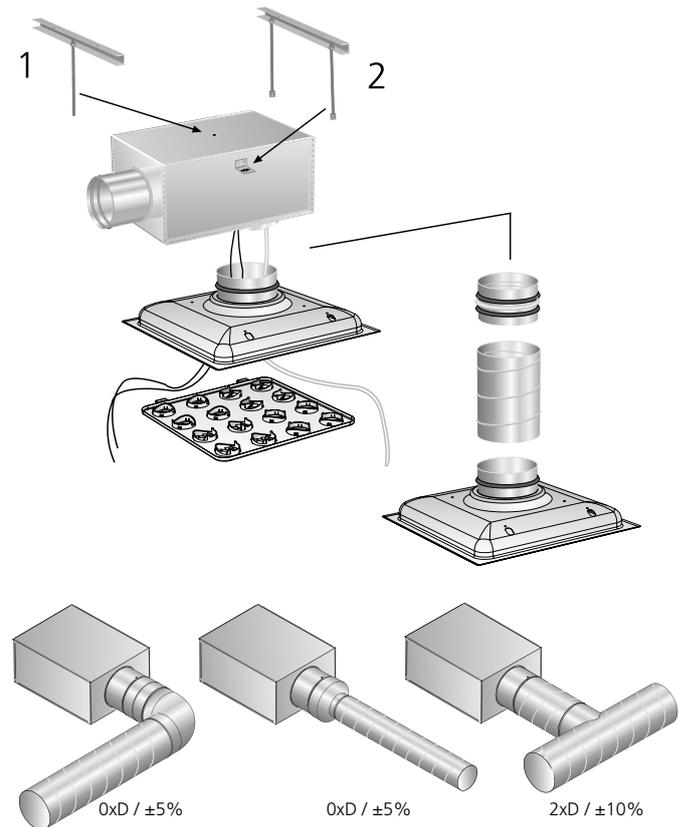

Figure 1. Installation
Secure the commissioning box to the building structure by means of pop-nuts (1) or mounting brackets (2). See Figure 1.
Measurement accuracy and requirement on straight duct before the commissioning box, see Figure 1. The requirement of straight duct depends on the type of disturbance before the commissioning box. Figure 1 shows a bend, a dimensional change and a T-piece. Other types of disturbances require at least 2xD straight (D = connection dimension) for measurement accuracy of ± 10% of the flow.